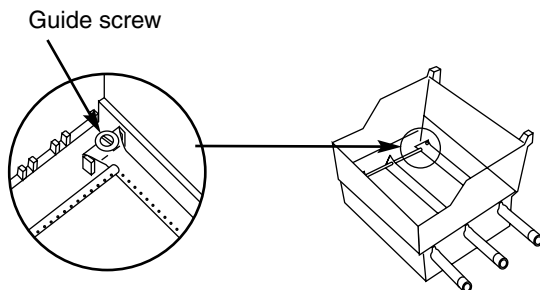

Figure 18
- g) Slide the burner assembly out from under the guide screw and washer in the corners of the cooking box. Figure 18.